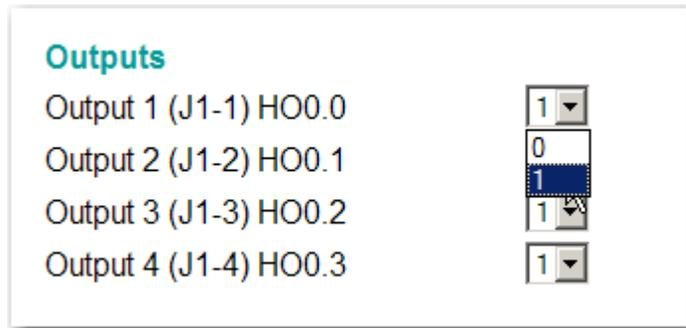

FIG. 272 DIGITAL OUTPUTS/SELECTING ON
- Step 5. The outputs 1-4 can be turned on or off from the Digital I/O Output page. To change the status of a Digital Output click on the pull down menu next to the Digital Output you want to change. (See Fig. 272)